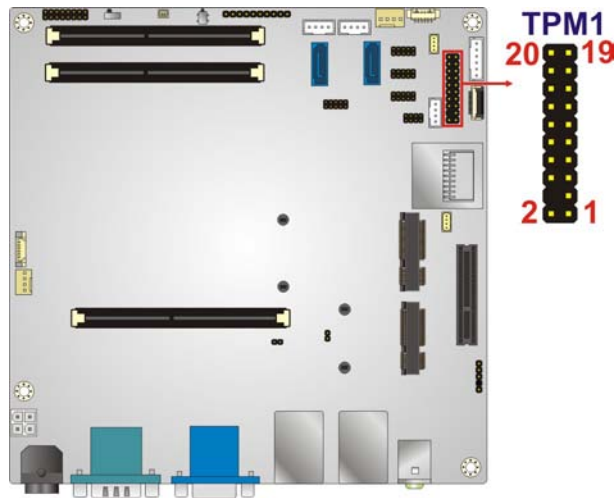

Figure 3-25: TPM Connector Location
- CN Location:See **Figure 3-25**